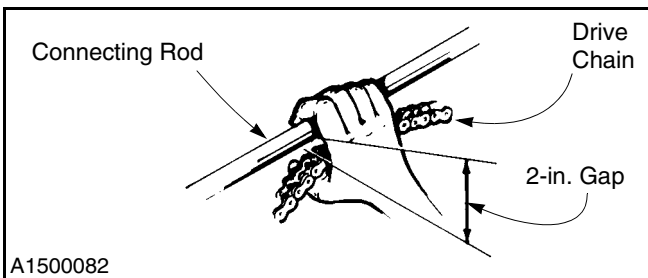

Figure 16
6. Check for proper chain tension. With the door in the fully open position, squeeze together the drive chain and connecting rod at the midpoint between the center plate and the adjustment sprocket. There should be a 2-in. gap between the chain and rod. (See Figure 16.)